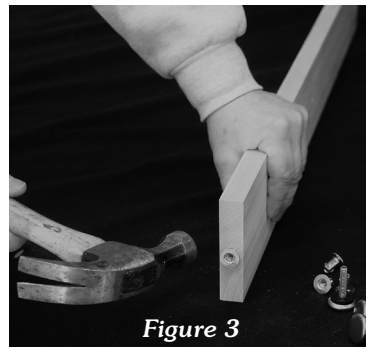

Figure 3
Step 3 - Insert T-nut into the predrilled holes at the bottom of each leg by hammering until it is flush with the wood. (See Fig. 3)